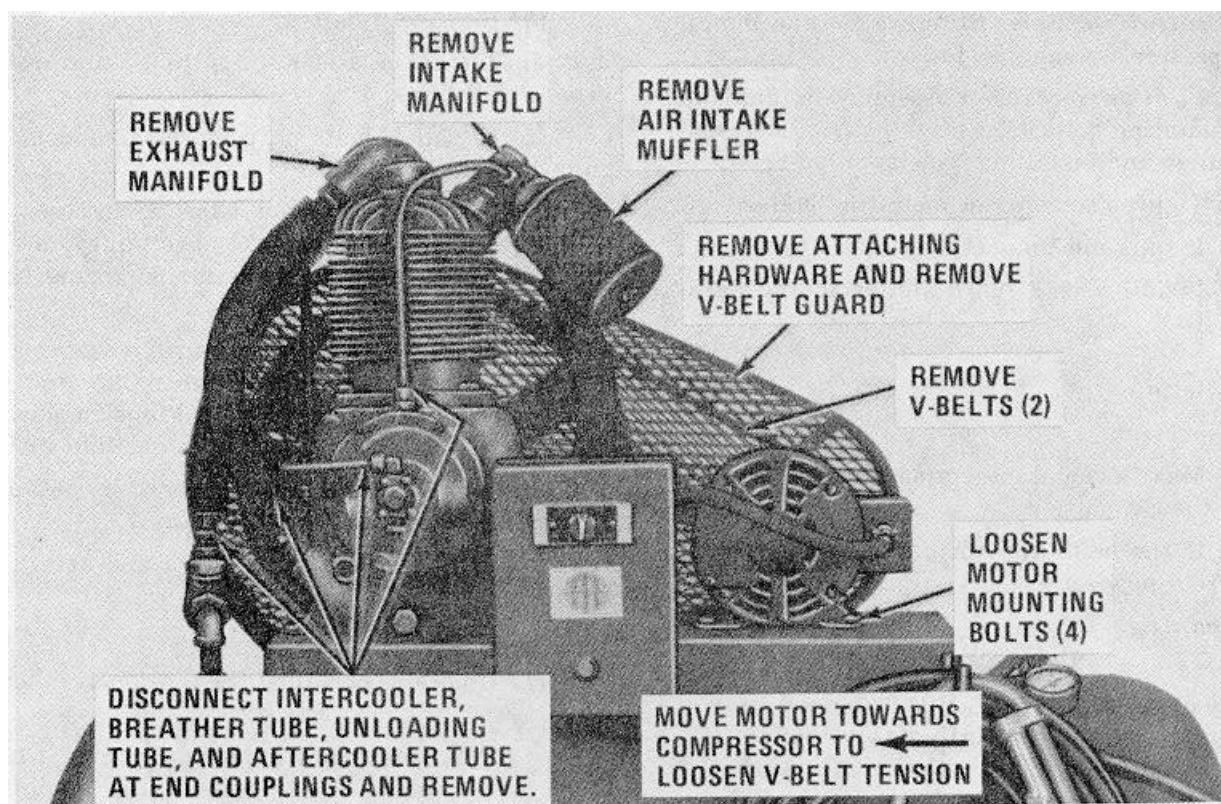

Figure 4-5. Compressor components and V belt drive.
(1) Use a cloth dampened in cleaning solvent, P-D-680, to remove oil and dust from the belts.
(2) If the belts have become saturated with oil and dirt, replace with a new set.
**c. Removal.** Refer to figure 4-5 and remove V-belts as follows:
(1) Remove attaching hardware and remove V-belt drive guard.
(2) Loosen motor mounting bolts and move
(3) Remove V-belts.
**d. Installation.** Refer to figure 4-5 and install V-belts as follows:
(1) Install V-belts on compressor and motor pulleys.
(2) Move motor away from compressor increasing V-belt tension. Make sure pulleys are in correct alignment. Tighten motor mounting bolts slightly.
(3) Press on the V-belts with your fingers midway between the motor drive pulley and the compressor flywheel. Proper V-belt tension is when the belt deflection is no more than one-half inch.
(4) When proper belt tension is obtained tighten motor mounting bolts securely.
(5) Install V-belt drive guard and attaching hardware and tighten securely.
**a. Removal.** Refer to figure 4-5 and remove air intake muffler as follows: Loosen set screw securing air intake muffler to intake manifold and remove intake muffler.
**c. Installation.** Install intake muffler on intake manifold as shown in figure 4-5 and secure by tightening setscrew.